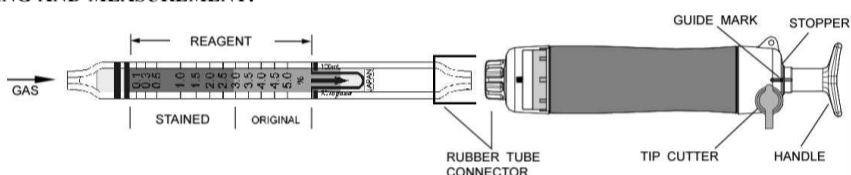

Fig.1
- ① Break both ends of the detector tube.
- ② Insert the detector tube into the aspirating pump securely as shown in Fig.1. (Arrow mark shall point to the pump.)
- ③ Align the guide marks on the shaft and stopper of the aspirating pump.
- ④ Pull the pump handle at a full stroke until it locks and wait for 1.5 minutes or until the completion of sampling is confirmed with the flow indicator of the pump. (See descriptions about the flow indicator in the instruction manual of the pump.)
- ⑤ On completion of sampling, read the scale at the maximum point of the stained layer. True concentration of Ethyl acetate can be obtained after temperature correction.
- ⑥ In case of Methyl acetate measurement, convert the reading value by using the conversion chart undermentioned. (REFER TO ITEM 4. CONVERSION CHART.) No temperature correction is necessary.
- ① Temperature; Correct the tube reading by following temperature correction table.